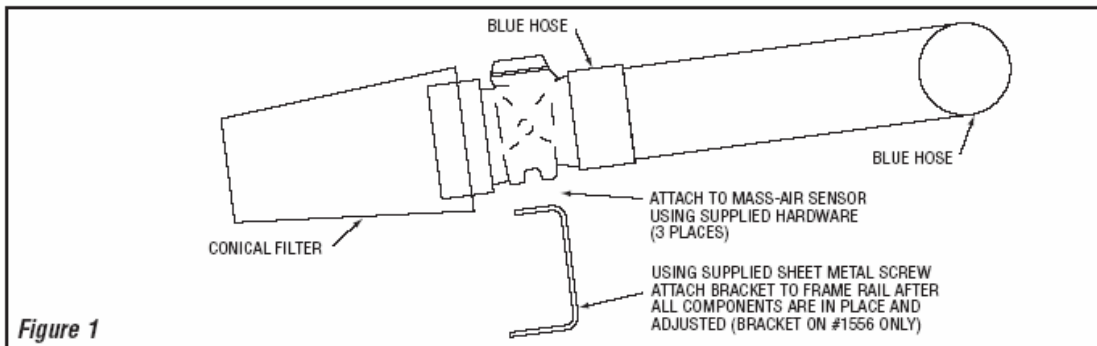
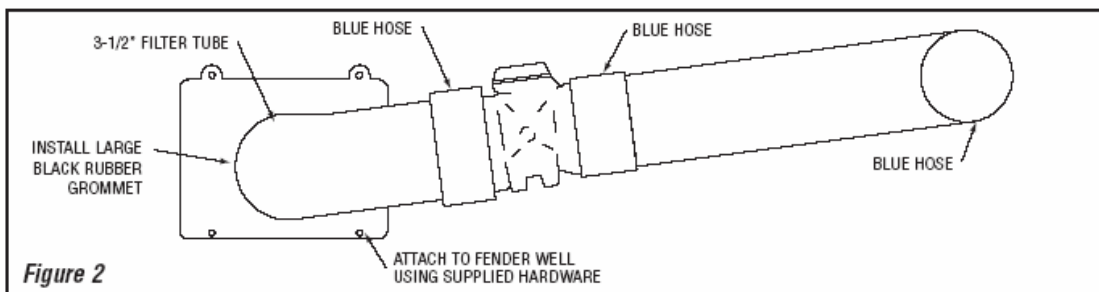

Figure 1
Figure 2
- Step 4** To finish installation simply install components in the vehicle as shown in Figure 1. For Fender well-style kits install components as shown in Figure 2.